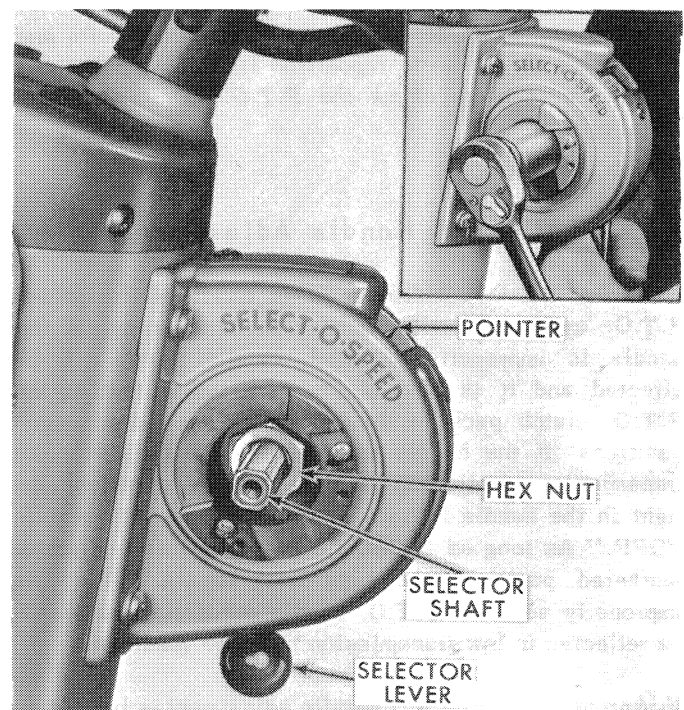

Figure 24
1. Remove the selector shaft left cover to expose the shaft and hex nut as shown in Figure 24.
2. Move the selector lever to the neutral position and, with a suitable wrench, such as a deep well socket, loosen the nut while holding the lever securely in the detent, as shown in the Insert, Figure 24.